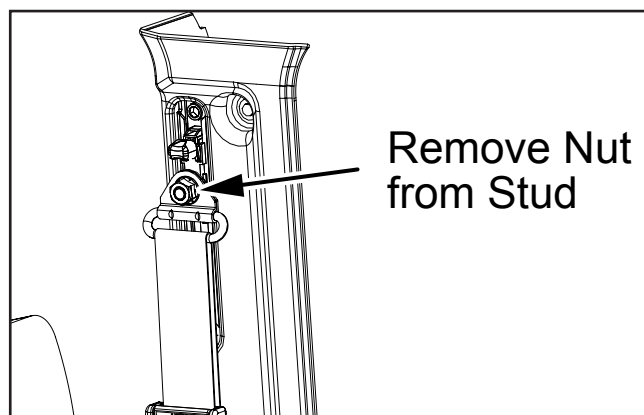

Figure 12
13. Remove (1) 7/16" nut from the stud on the clevis and discard. Repeat for the opposite side (see *Figure 12*).